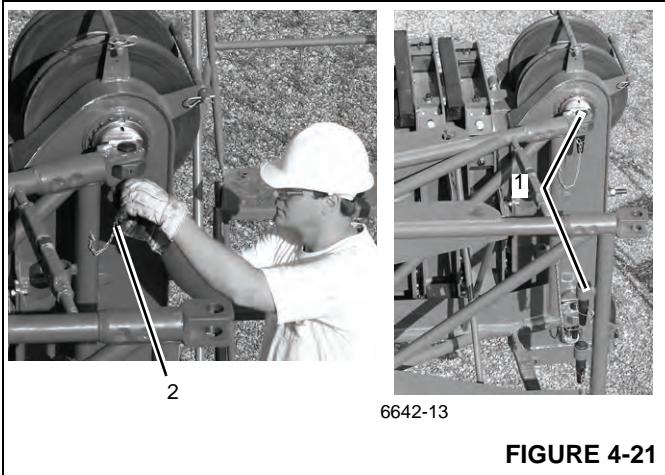

FIGURE 4-21
- Remove pins (1, Figure 4-21) stowed in extension and install in holes (right side of boom nose) and secure with retainer clips (2).